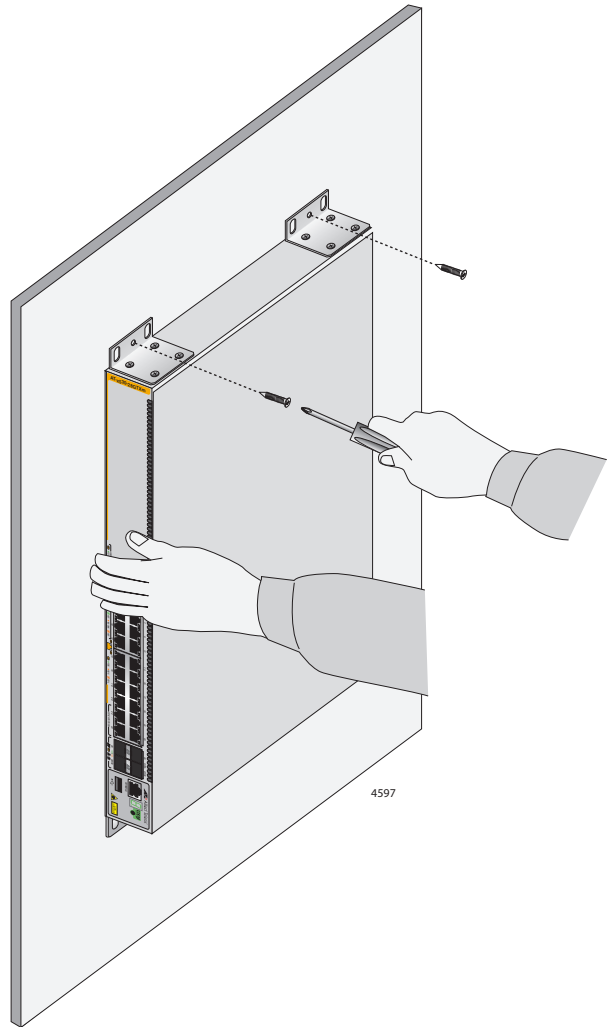

Figure 38. Installing the Switch on a Concrete Wall
7. Have another person hold the switch at the selected wall location while you secure it to the wall with the M4x32mm screws provided. Refer to Figure 38.